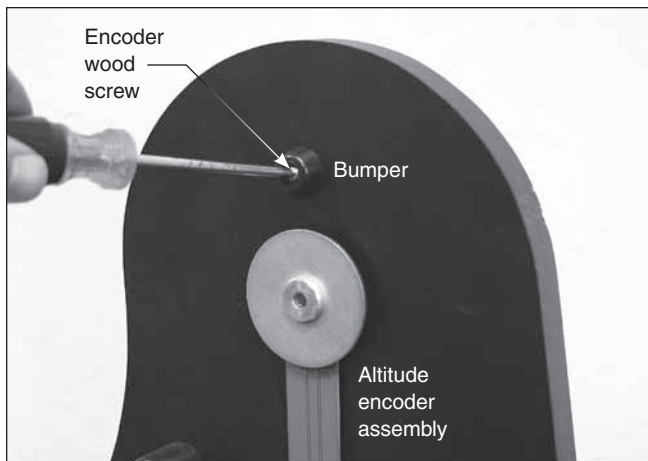

Figure 16. Install the bumper into the pilot hole above the altitude encoder assembly using one of the encoder wood screws.
18. There is a pilot hole above the altitude encoder assembly; this is where the plastic bumper (found in the IntelliScope kit) that protects the altitude encoder assembly will be installed. Take the remaining encoder wood screw from the IntelliScope kit, push it through the bumper, and use a Phillips screwdriver to thread it into the pilot hole until tight (**Figure 16**).